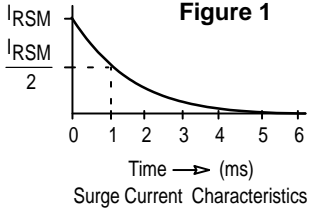

Figure 1
Table 4. Peak Power Dissipation⁽¹⁾ (1500 Watts @ 1 ms Surge – Figure 1) (continued)
Table 5. Peak Power Dissipation (40 Watts @ 1 ms Surge – Figure 1)(1)
Table 6. Peak Power Dissipation (24 Watts @ 1 ms Surge – Figure 1)(1)
Table 7. Peak Power Dissipation (24 Watts @ 1 ms Surge – Figure 1)
<div style="display: flex; justify-content: space-between; align-items: center;"> <div style="text-align: center;">  <p>CASE 403B-01 SMA PLASTIC</p> </div> <div style="text-align: right;">  <p>Figure 1 Surge Current Characteristics</p> </div> </div>
<div style="display: flex; justify-content: space-between; align-items: center;"> <div style="text-align: center;">  <p>CASE 403B-01 SMA PLASTIC</p> </div> <div style="text-align: right;"> <p>Figure 1</p>  <p>Surge Current Characteristics</p> </div> </div>